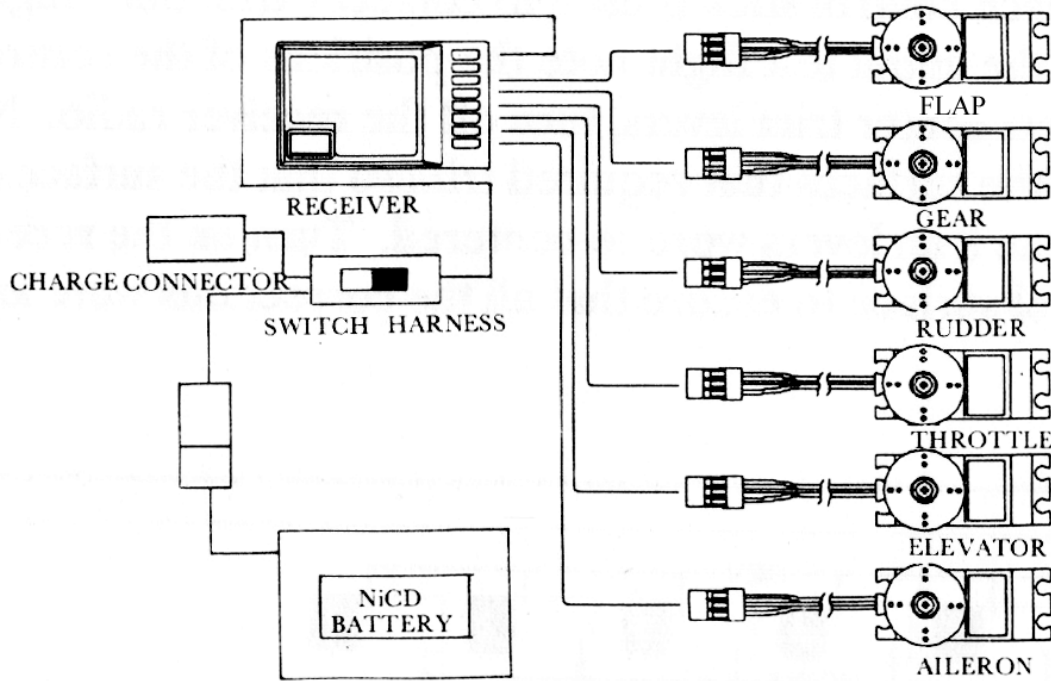

fig 3
- Turn the power switches “ON” and operate the transmitter. Observe the direction of travel of the control surfaces to see if they correspond to the control stick movement. Improper servo direction is corrected with the servo reverse switches (fig 3).